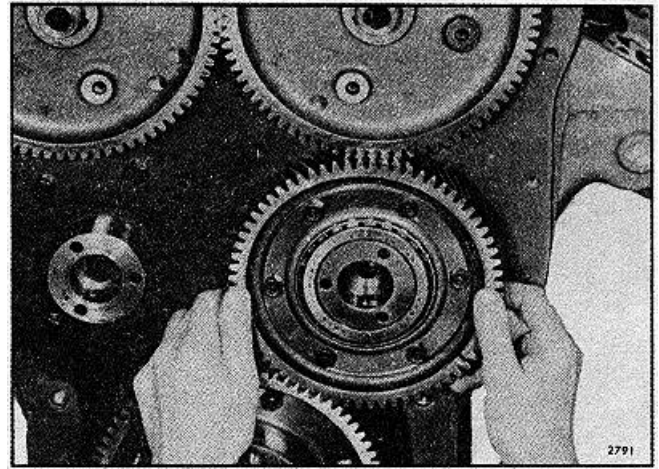

FIG. 9 - Installing Idler Gear, Hub and Bearing Assembly
2. With the timing marks in alignment, start the idler gear in mesh with the crankshaft gear and camshaft gear, and simultaneously rotate the gear so the pin in the hub registers with the hole in the end plate (Fig. 9).